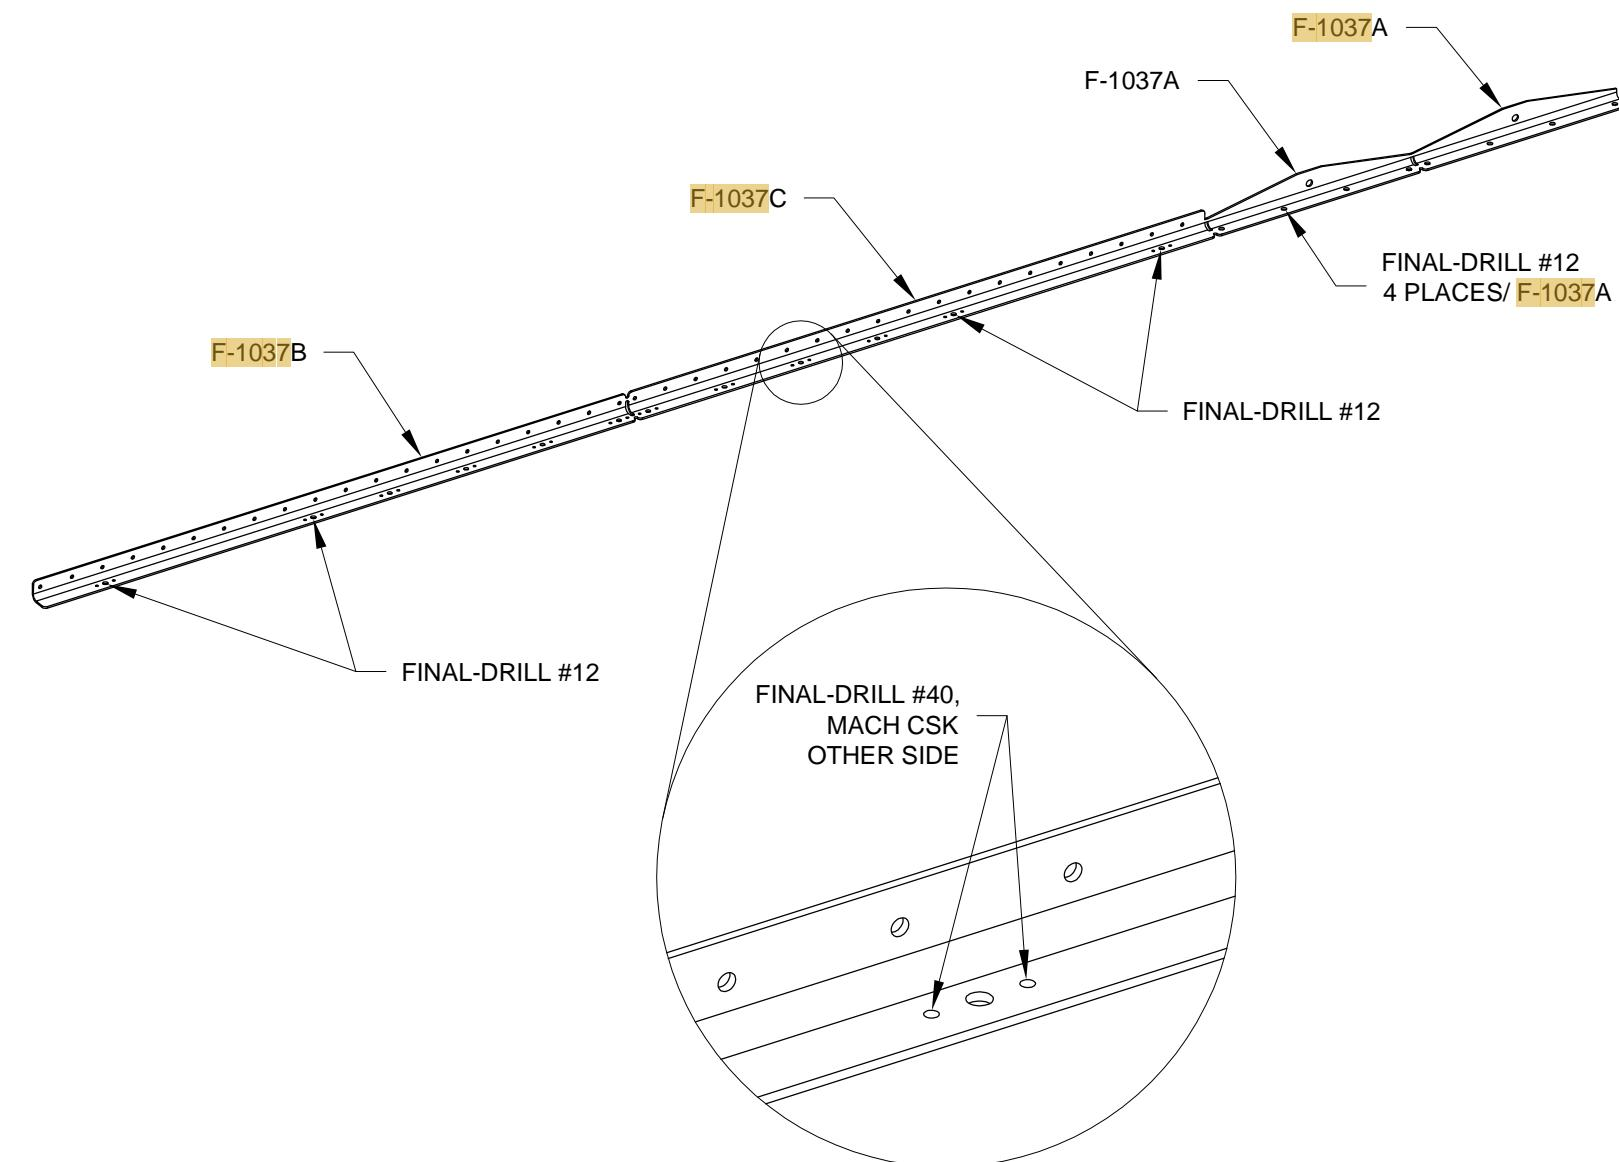

FIGURE 2: F-1037 BELLCRANK RIB ANGLES
Step 3: Separate the F-1037 Bellcrank Rib Angle into the individual parts shown in Figure 2.
Step 4: Final-Drill the 3/32" nutplate attachment rivet holes in both the F-1037B & C Bellcrank Rib Angles using a #40 drill. Machine countersink these holes flush for 3/32" rivets on the side indicated in the blowup of Figure 2.